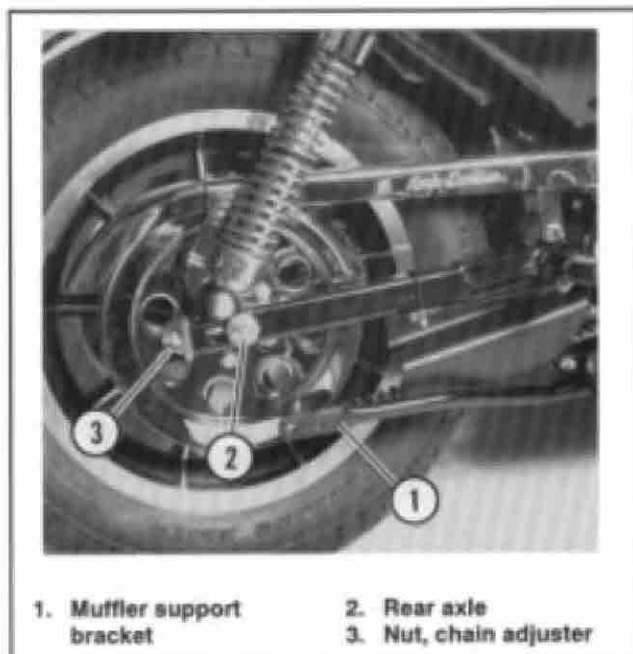

Figure 2. Chain Removal
5. Remove brake pedal retaining ring. Remove and discard cotter pin from brake linkage clevis pin (2); remove clevis pin. Remove brake pedal (3). Remove bolts from brake master cylinder (4). Move master cylinder out of the way, leaving brake line attached.
6. Remove nut (5) from the stud which attaches exhaust bracket to sprocket cover.
7. See Figure 2. Remove the bolts, nuts and washers which secure muffler to muffler support bracket (1). Remove exhaust system.
3. Install exhaust system. Secure nuts at cylinder studs by tightening to 60-80 in-lbs torque. Place exhaust bracket over stud at sprocket cover and secure with nut (5). Tighten nut (5) to 50-60 ft-lbs torque. See Figure 2. Attach muffler to muffler support bracket (1) with original bolts, washers and nuts.
4. Attach master cylinder (4) to sprocket cover with original bolts and lockwashers. Tighten master cylinder bolts to 155-190 in-lbs torque. Insert clevis pin (2) through brake pedal and brake linkage rod end. Install new cotter pin (small) from kit in clevis hole. Install right front footrest.